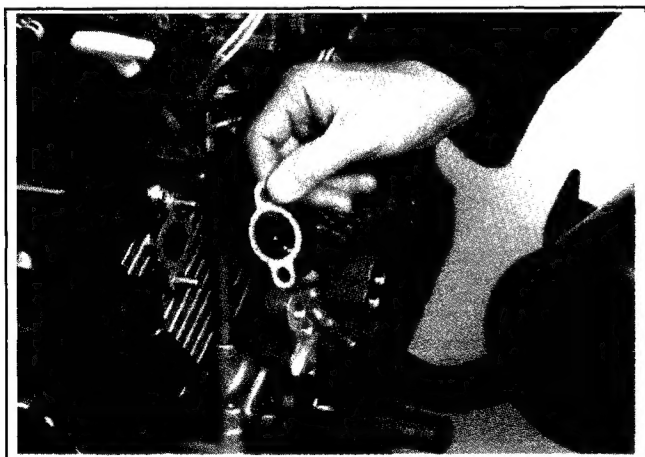

Figure 11-55. Installing Exhaust Gasket and Muffler.
2. Install muffler on studs and secure with four nuts. See Figure 11-55.